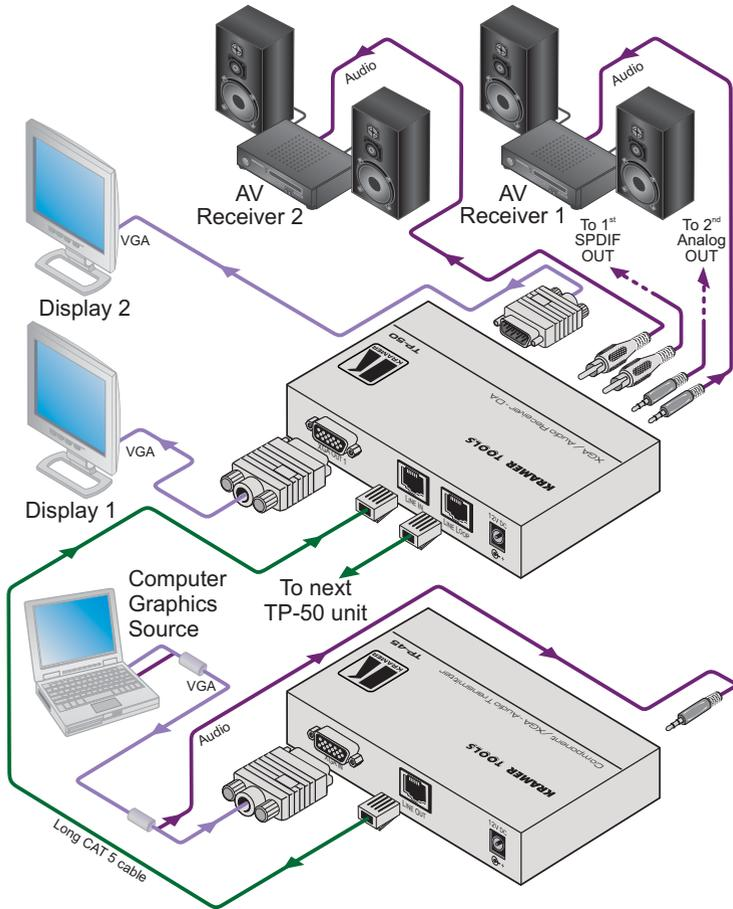

Figure 3: Component/XGA – Audio Distribution System, XGA Mode
To configure a **TP-45/TP-50** XGA/Audio Line Receiver – DA system² as illustrated in the example in Figure 3, do the following:
4. Connect the 12V DC power adapter to the power socket and connect the adapter to the mains electricity on both⁶ the **TP-45** and the **TP-50** (not shown in Figure 3).